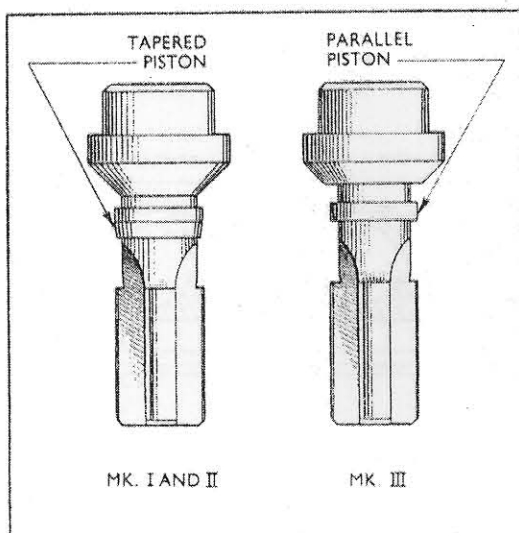

Fig. 13
The delivery valves were changed at the introduction of the Mark III engine, the piston portion immediately below the conical seat of the latest valves is parallel faced instead of taper faced (see Fig. 13). Only delivery valves with parallel faced piston portions should be used on Mark III engines.
- The unloading collar or piston portion of the delivery valves used in the Mark III pump is parallel where previous to this they were tapered (see Fig. 13).